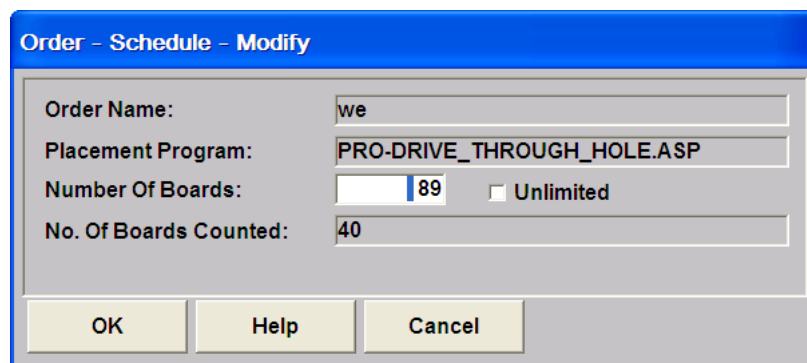

Figure 47 Order schedule- Modify
- After the 'OK' button is pressed, the warning dialogue Figure 47 will appear.